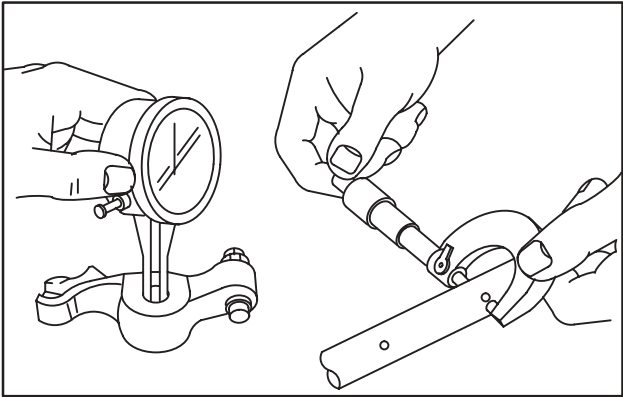

Fig. 26 – Checking Rocker Arm And Shaft
- 2. Check rocker arms and shaft, Fig. 26.